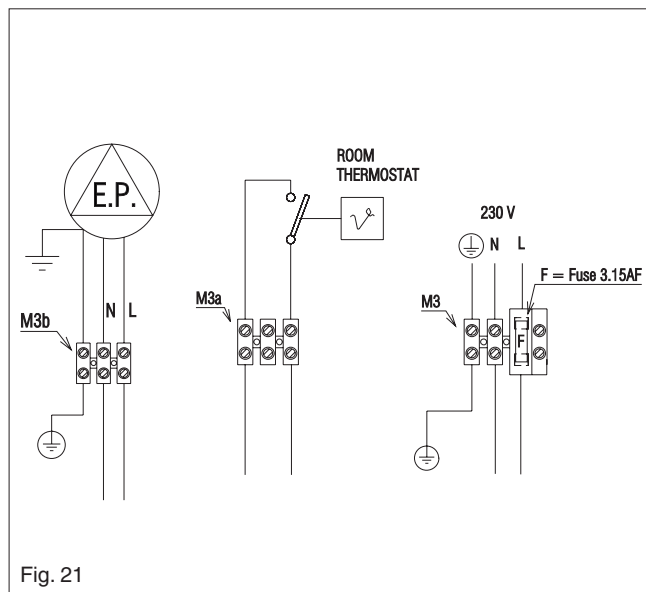

Fig. 21
4.7.3 CONNECTING THE MAINS (230V) INPUT (see fig. 21)
4.7.4 CONNECTING THE PUMP (230V) OUTPUT (fig. 21)